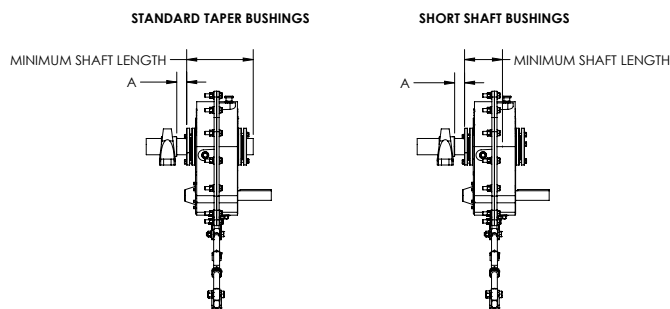

Figure 2 - Minimum Recommended Dimensions
The driven shaft must extend through the full length of the reducer. If the driven shaft does not extend through the reducer, do not use the standard tapered bushings; instead use the short shaft bushings as described in the Short Shaft Bushings section that follows (TAII and MTA only). The minimum shaft length, as measured from the end of the shaft to the outer edge of the bushing flange (see Figure 2), is given in Table 1.
3. Place one bushing, flange end first, onto the driven shaft and position per dimension "A", as shown in Figure 2 and Table 2. This will allow the bolts to be threaded into the bushing for future bushing and reducer removal.
1. One bushing assembly is required to mount the reducer on the driven shaft. An assembly consists of one long tapered bushing, one short tapered bushing, one tapered bushing wedge, bushing screws and washers, two bushing backup plates and retaining rings, and necessary shaft key or keys. The driven shaft does not need to extend through the reducer for the short shaft bushing to operate properly. The minimum shaft length, as measured from the end of the shaft to the outer edge of the bushing flange (see Figure 2), is given in Table 1.